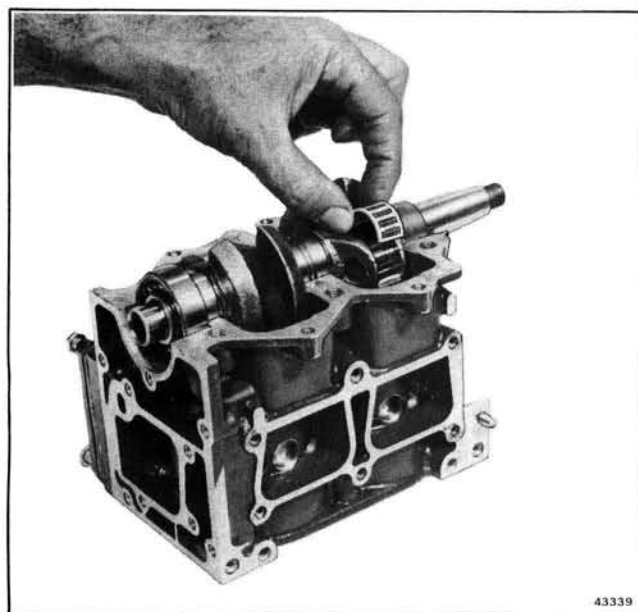

Figure 5-36. Installing Bearings
d. Place other retainer halves and bearings on crankpins. See Figures 5-36 and 5-37.